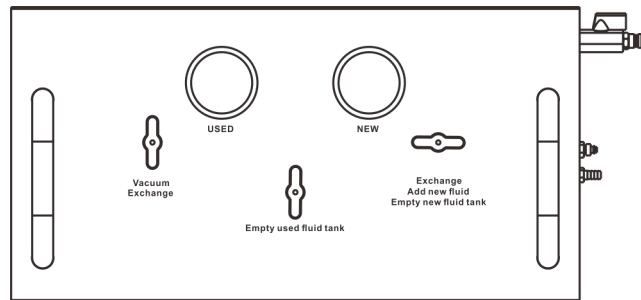
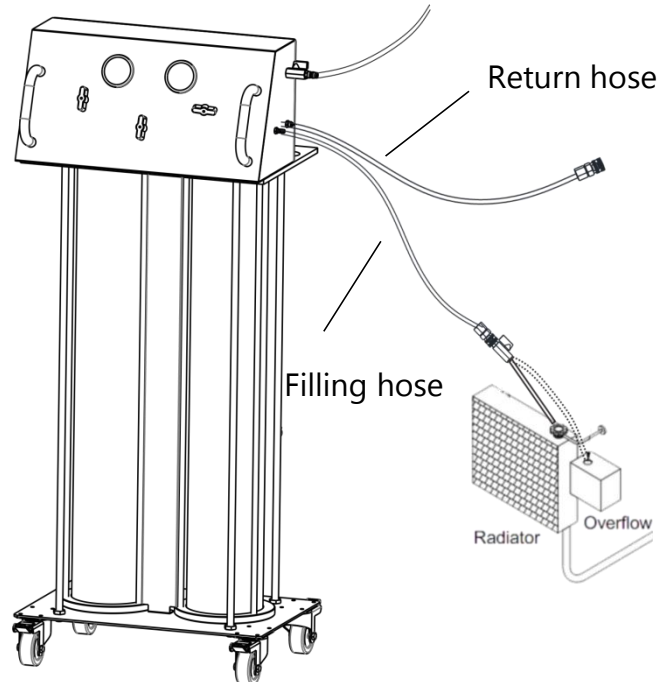

Fig.10
Fig.11
4. Head the wand to radiator and overflow tank separately, open “Exchange/Add new fluid/Empty new fluid tank” panel valves, shop air valve and wand hand valve to add coolant to radiator and overflow tank, separately; (Fig.10/Fig.11)